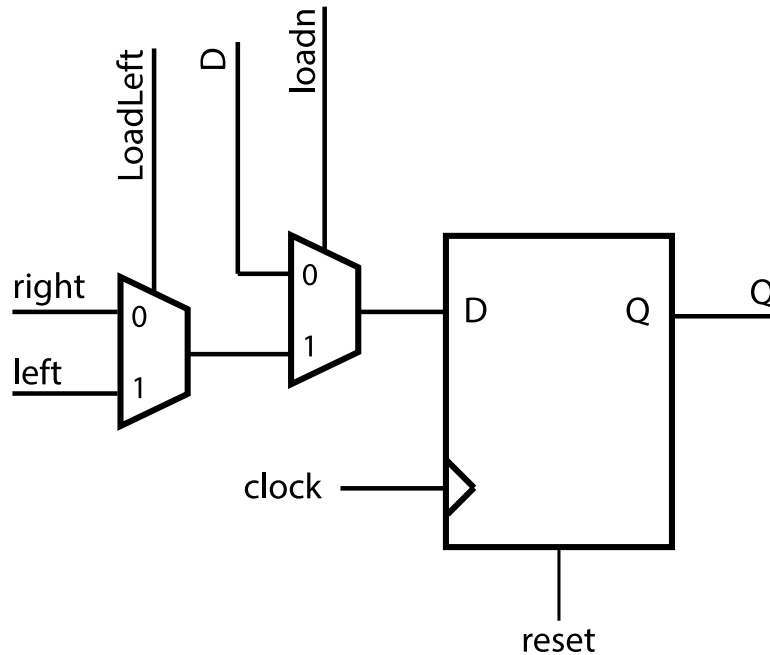
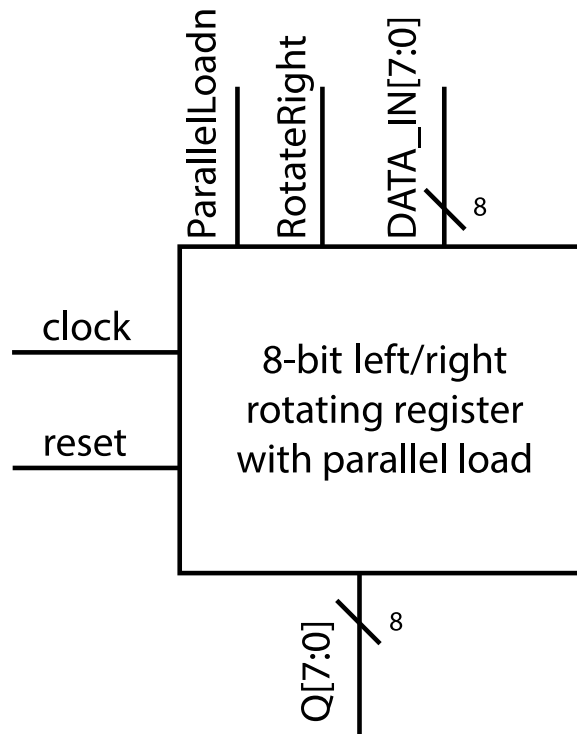

Figure 3: Sub-circuit for Part III.
Figure 4: Top-level circuit for Part III.
Figure 3 shows a positive-edge-triggered flip-flop with several multiplexers. In this part of the lab, you will use eight instances of the circuit in Figure 3 to design a left/right 8-bit rotating register with parallel load shown in Figure 4. The *LoadLeft* input of all eight instances of the circuit in Figure 3 should be tied to a single rotating register input *RotateRight* because when you want to rotate the bits right, you have to load the bit to the left. The *loadn* input of all eight instances should be tied to a single rotating register input *ParallelLoadn*. The *clock* input of all eight instances should be tied to a single rotating register input *clock*. Create an 8-bit-wide rotating register input *DATA_IN*, whose individual wires $DATA_IN_7$ to $DATA_IN_0$ are tied to the *D* input of each instance of the circuit in Figure 3. Likewise, create an 8-bit-wide rotating register output *Q*, whose individual wires Q_7 to Q_0 are tied to the *Q* output of each instance of the circuit in Figure 3.
The remaining connections between the eight instances of the circuit in Figure 3 should realize the following behaviour:
Figure 4 shows the inputs and outputs of the top-level left/right rotating register circuit with parallel load, which will contain eight instances of the circuit in Figure 3.
1. Draw a schematic for the 8-bit rotating register with parallel load. Your schematic should contain eight instances of the circuit in Figure 3. Label the signals on your schematic.
3. Write a Verilog module for the circuit in Figure 3.
4. Write a Verilog module for the rotating register with parallel load that instantiates eight instances of your Verilog module for Figure 3. This Verilog module should match with the schematic in your lab book. Use SW_{7-0} as the inputs $DATA_IN_{7-0}$ and SW_9 as a synchronous active high reset. Use KEY_1 as the *ParallelLoadn* input, KEY_2 as the *RotateRight* input and KEY_3 as the *ASRight* input. Use KEY_0 as the clock and SW_0 as a synchronous active high reset, but **read the important note below about switch bouncing.** The outputs Q_{7-0} should be displayed on the red LEDs ($LEDR_{7-0}$).